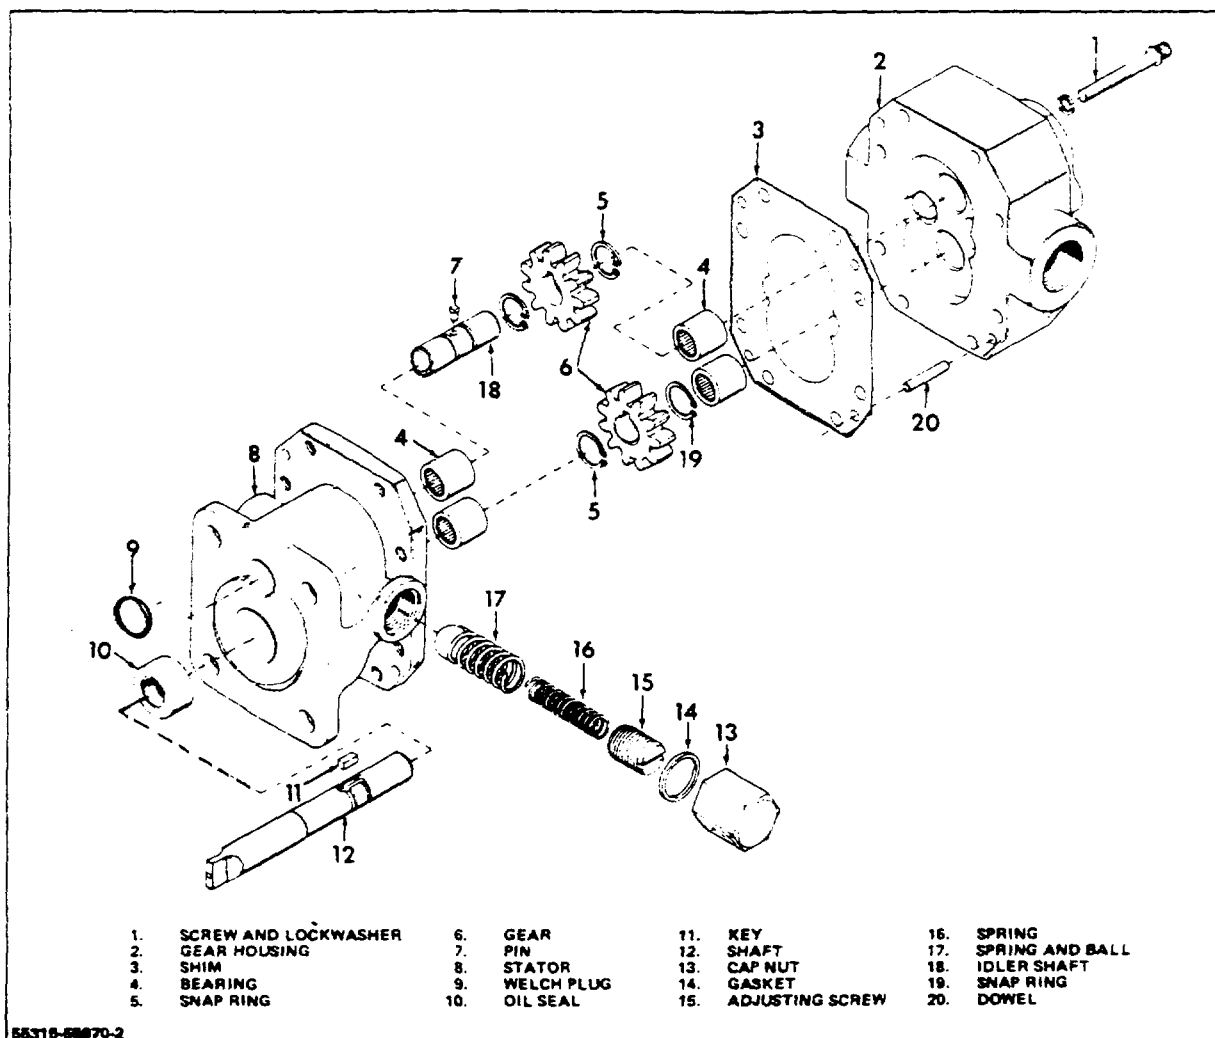

Figure 5-1. Power Steering Pump
capscrews holding gear housing and stator together (Fig 5-1).
1. Carefully install new oil seal in stator (Fig 5-1).